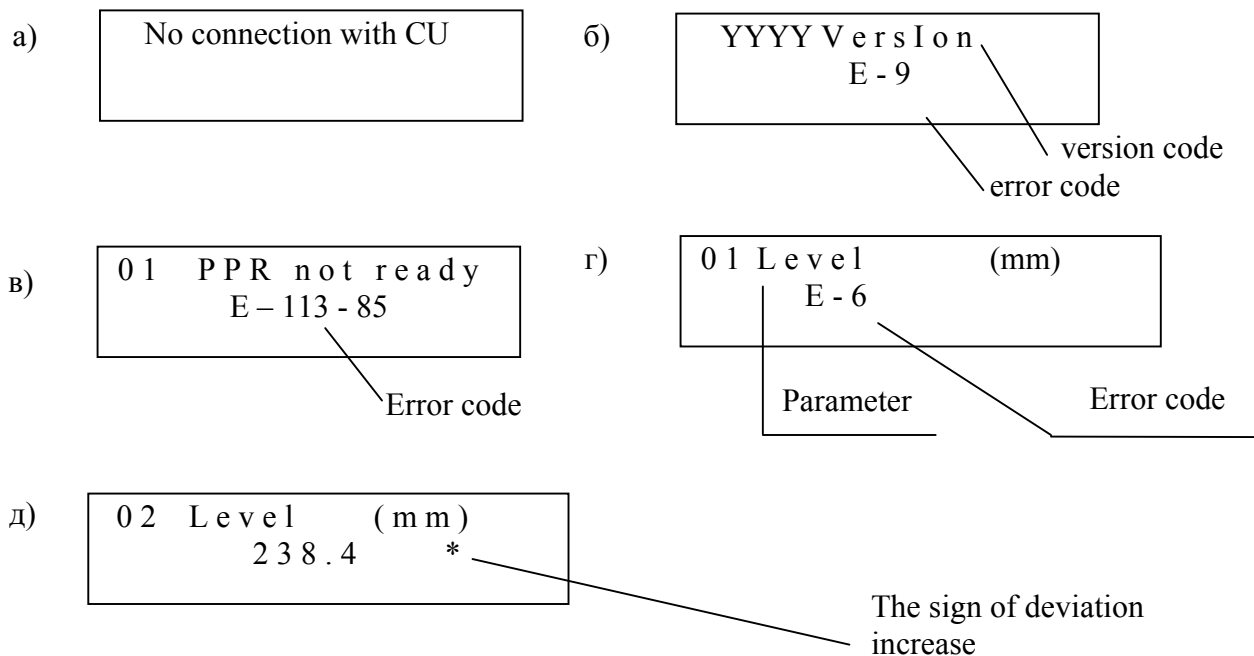

Figure 9.1
a) trouble-shooting messages formed independently by IU unit: “No connection with CU”, “Keyboard error” (see figure 9.1 a). The message is taken off automatically if the problem is eliminated;
b) information on the errors integrated in the current interface of the measurements mode is formed by the CU unit for depiction to the IU screen and for transmitting to PC. The errors description is given in tables 9.2 ... 9.10. The depiction examples are presented at figures 9.1 d), 9.1 e).
If «E-9» errors are indicated (see figure 9.1 b), «E-10» operator's actions are to be specified.
The errors description is presented in table 9.1. The message examples are presented at figure 9.1 c) and in item 8.5.1.